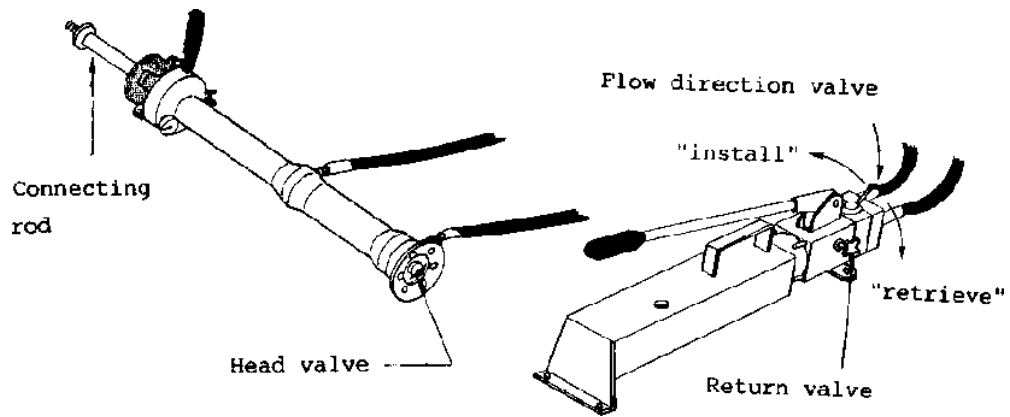

Fig. 6
10. Connect the hoses from the pump to the retriever. Before using the pump, observe the settings of the flow-direction valve, "RETRIEVE" and "INSTALL" (fig. 6).
11. Ensure that the valve in the retriever head (head valve) is open (1-2 turns is sufficient). For manual pumps, also check that the return valve on the pump is closed. Set the hand/airpump to "INSTALL", and pump until the connecting rod is fully extended. Continue to pump until the pressure inside the retriever is a minimum of 290 psi (20 bar) - (watch the pressure gauge on the pump). Then close the head valve, and disconnect the hoses (fig. 6).